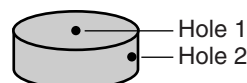

Figure 1. Cap
2. Melt a hole in the center of the flat surface of the cap (see Figure 1) using a heated straightened paper clip or dissection needle. (A candle or burner may be used to heat the paper clip.) The motor axle of the centrifuge device should fit snugly through this hole.